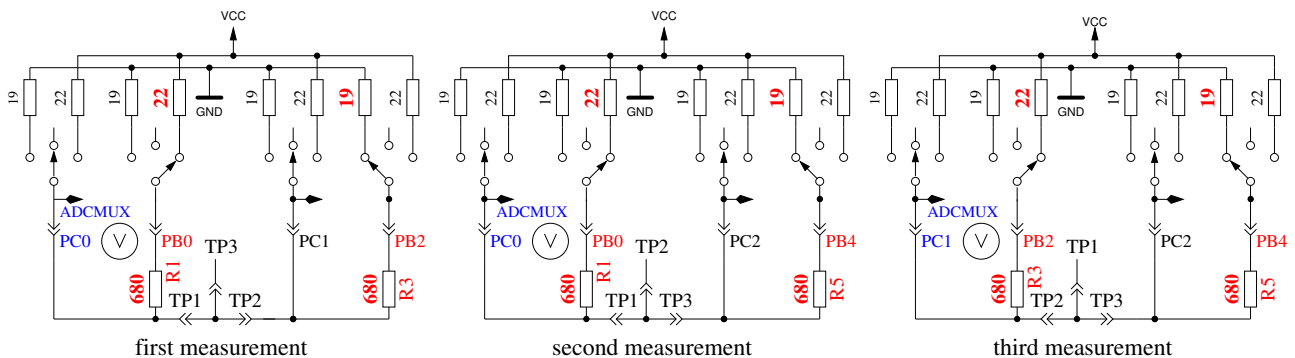

Figure 5.46: Comparison of 680Ω resistors
- Comparing of the 680Ω resistors.** In row 1 the cryptic text “+RL- 12 13 23” is shown. Meaning of this is as follows: The RL is the short form of Resistor Low meaning the 680Ω resistors. The 12 stand for: resistor at pin 1 is connected to VCC (+) and resistor at pin 2 is connected to GND (-). The result of this measurement is displayed in row 2 at the first place as difference to the theoretical value. In row 1 follows now a “13” which means, that the first connection of measurement 1 is still connected with 680Ω to VCC but that the resistor of pin 3 is connected to GND. The result is displayed in the middle place of row 2 as difference to the theoretical value. The last measurement of this test “23.” means that now the resistor at pin 2 is connected to VCC (+) and the resistor of pin 3 is connected to GND. The result of measurement is displayed at the last place of LCR row 2 as difference to the theoretical value. Please remember, that the resolution of the ADC is about 4.88mV! The measurement situation is also shown in figure 5.46. The theoretical value with respect to the internal resistance of the pins should be: $\frac{5001 \cdot (19+680)}{(19+680+680+22)} = 2493$.